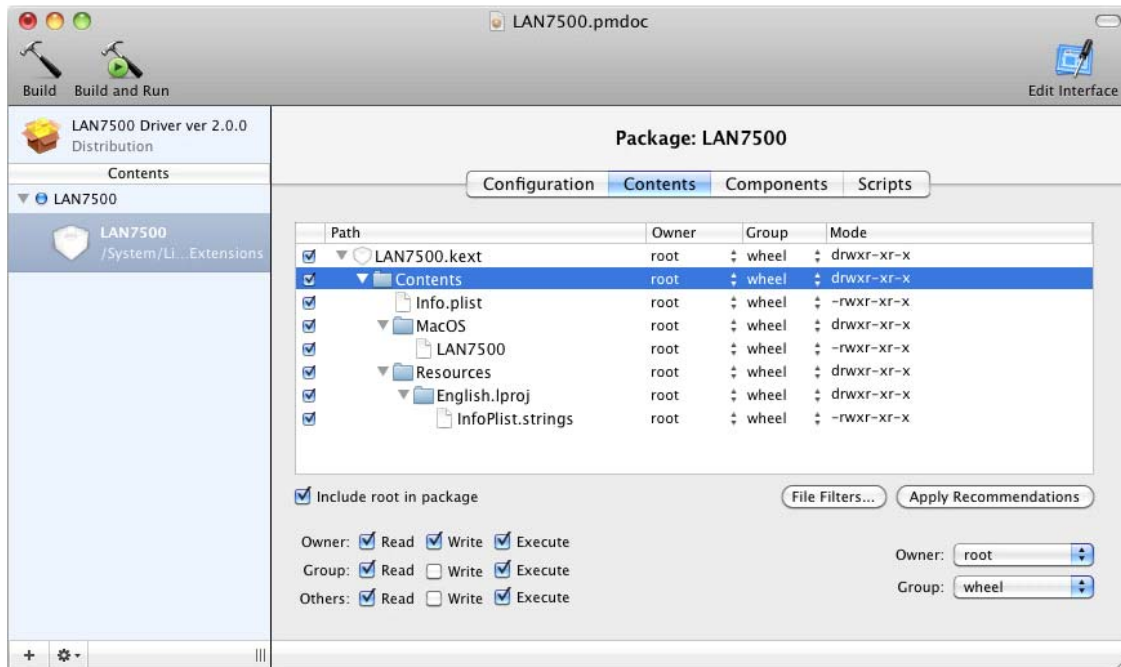

Figure 8.10 Content Information
8. Modify the file attributes under “Contents” heading as shown in Figure 8.10.